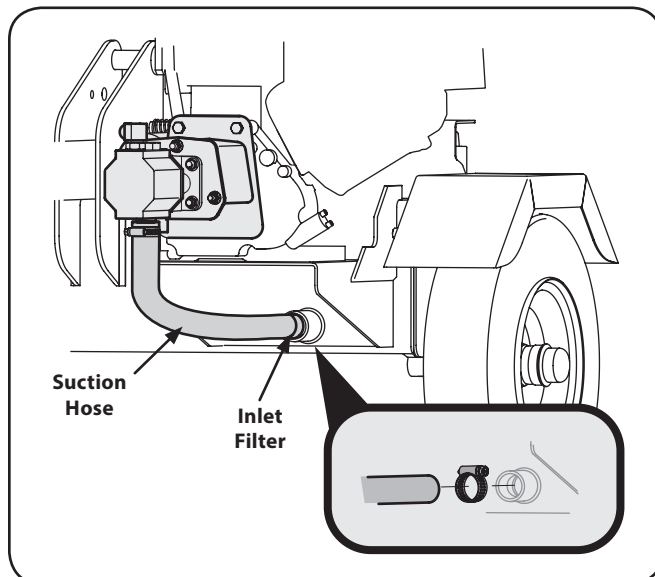
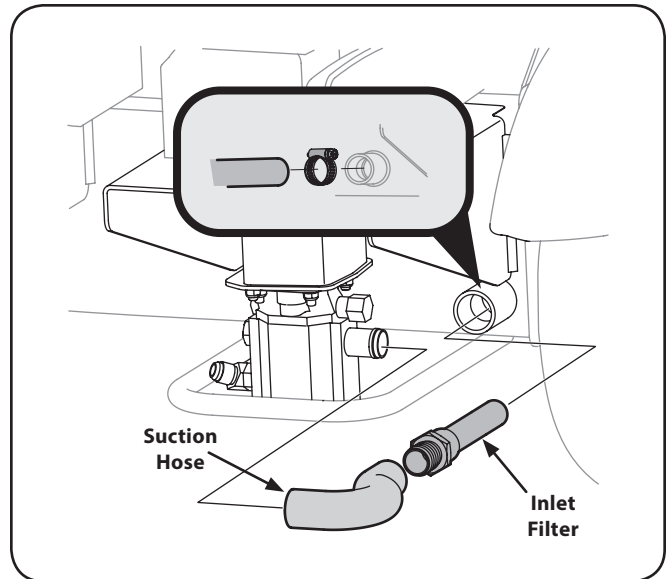

Figure 6-1
Figure 6-2
2. If your engine has a horizontal engine set-up shown in Figure 6-1, see Figure 6-1 for changing the hydraulic fluid. If your engine has a vertical set-up shown in Figure 6-2, see Figure 6-2 for changing the hydraulic fluid.
3. Disconnect the suction hose from the bottom of the reservoir tank. See Figure 6-1 for horizontal engines or Figure 6-2 for vertical engines.